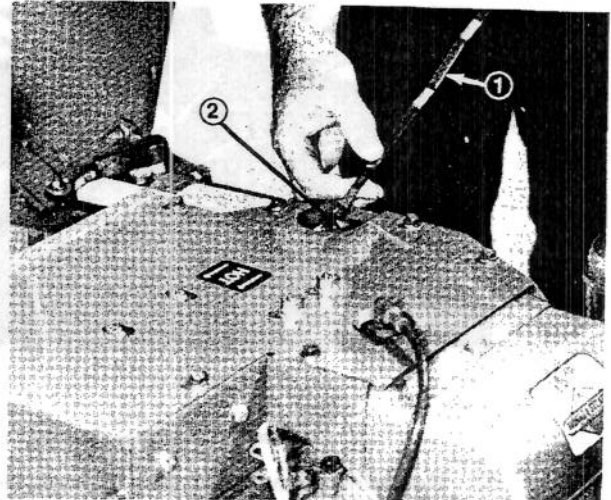

Figure 65
4. Check oil and make sure level is up to the FULL mark on dipstick. (Fig. 65). Add more oil if level is low; however, DO NOT OVERFILL.